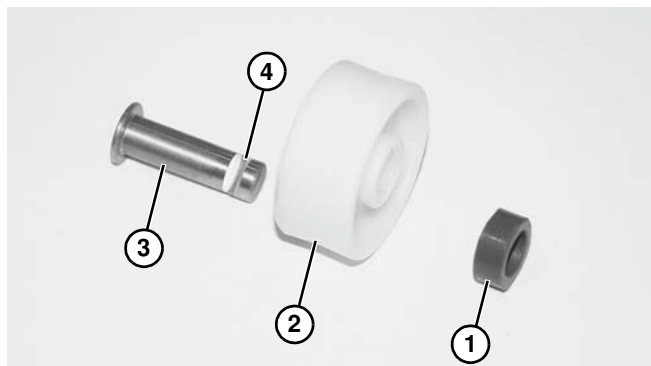

Figure 25
4. Assemble spacer tube (**Figure 25, item 1**) and roller (**Figure 25, item 2**) onto shaft (**Figure 25, item 3**).
Note orientation of components and notch (Figure 25, item 4) on shaft before installing assembly. Notch will be facing down to attach into retainer plate on conveyor.